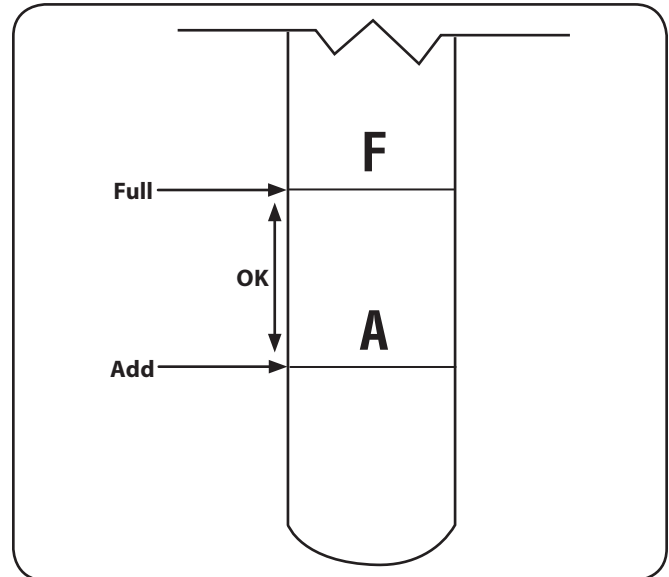

Figure 6-2
- Remove the dipstick and check the level. See Figure 6-2.
- Remove the oil fill plug/dipstick from the oil fill port and SLOWLY pour oil into the oil fill port. Fill the transmission case until the oil level reaches the “FULL” mark on the dipstick. Refer to Figure 6-2.